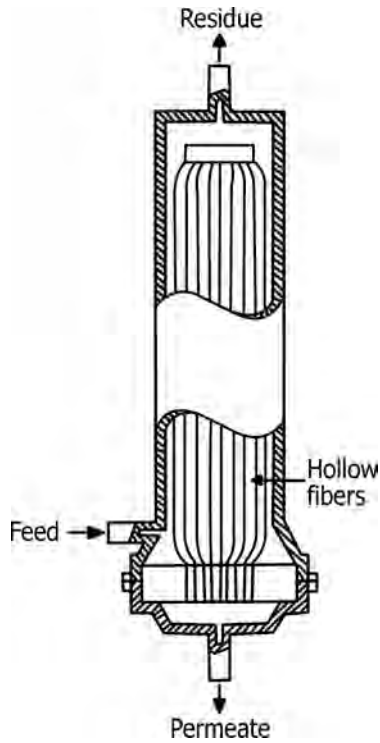

FIGURE 18.48 Hollow fiber module (vertical).
- Figures 18.48–18.50 show typical hollow fiber membrane modules.